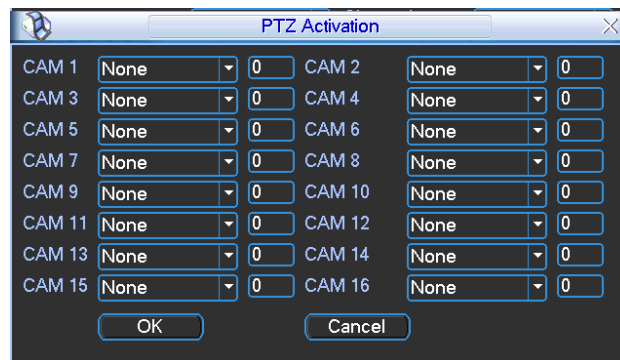

Figure 4-22
- PTZ activation: Here you can set PTZ movement when alarm occurs. Such as go to preset, tour & pattern when there is an alarm. Click "select" button, you can see the interface shown in Figure 4-22. Please note: motion detection can only activate the preset.